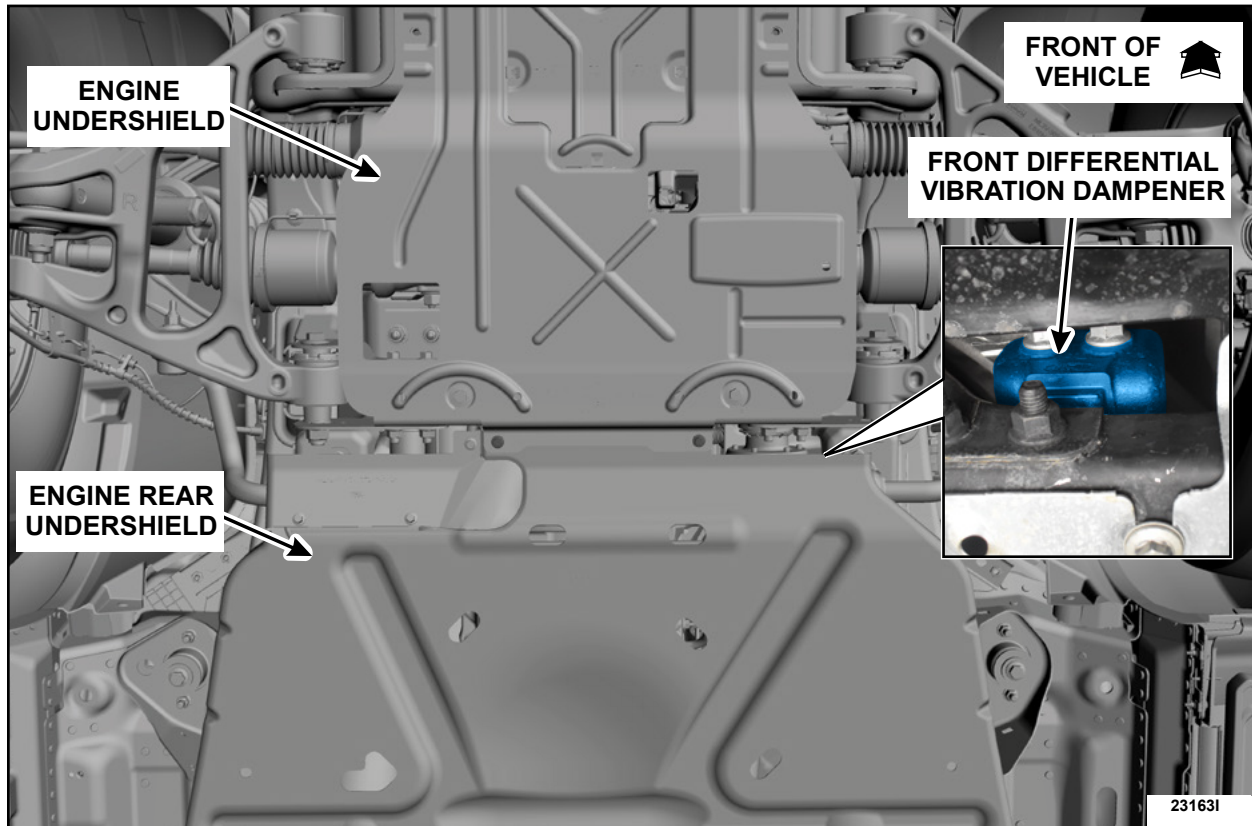

FIGURE 1
2. Locate the front differential vibration dampener between the engine undershield and engine rear undershield. See Figure 1.